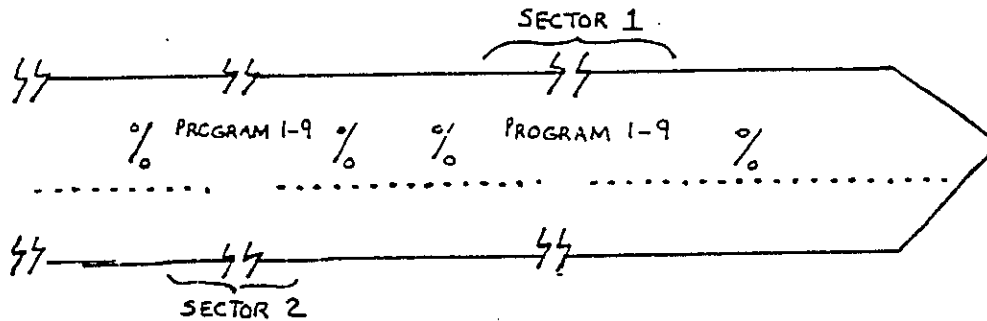

FIGURE 5.5.2 - PAPER TAPE FORMAT
1. Each sector on the tape is De-Limited by a "%" character in Figure 5.5.2. The tape can have as many sectors as possible.